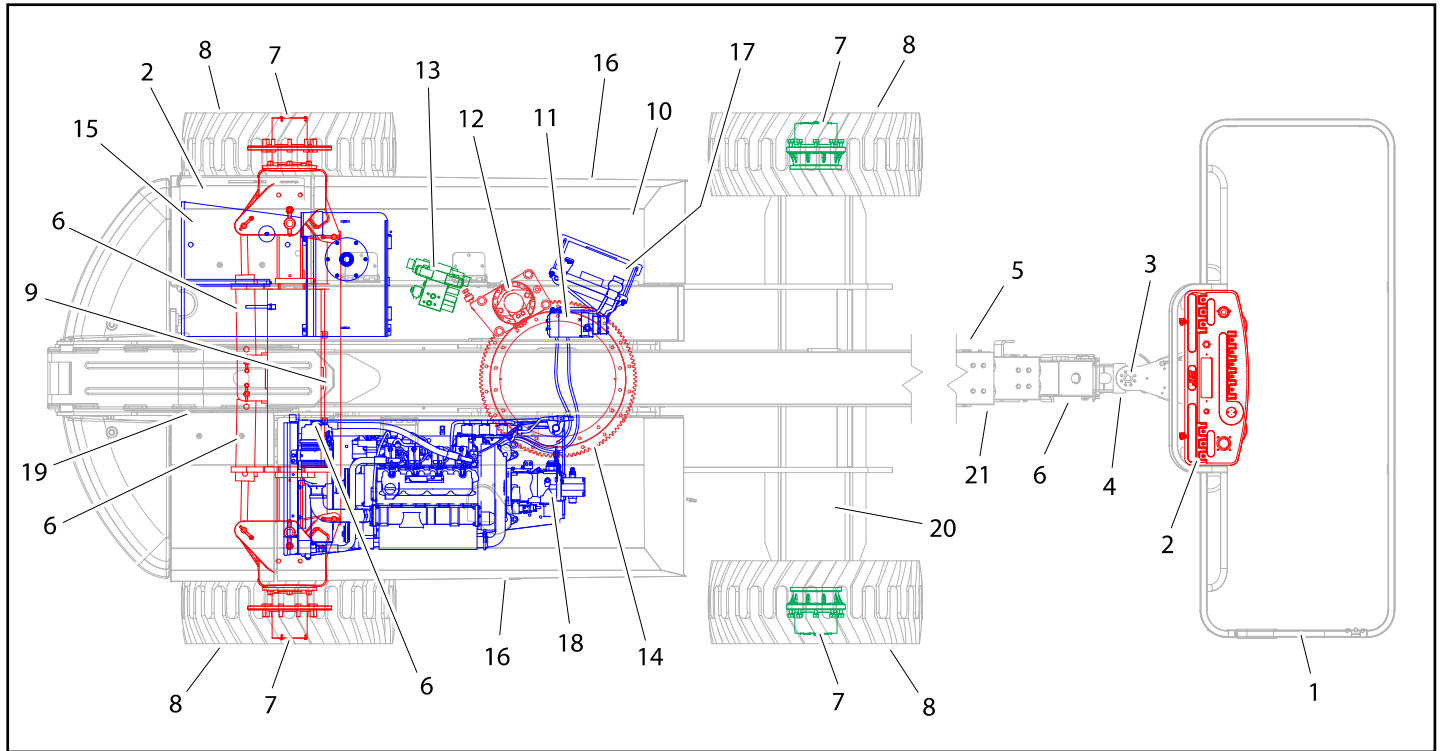

Figure 2-3. Daily Walk-Around Inspection Diagram
5. **“Walk-Around” Inspection** – Refer to Figure 2-3. thru Figure 2-5.